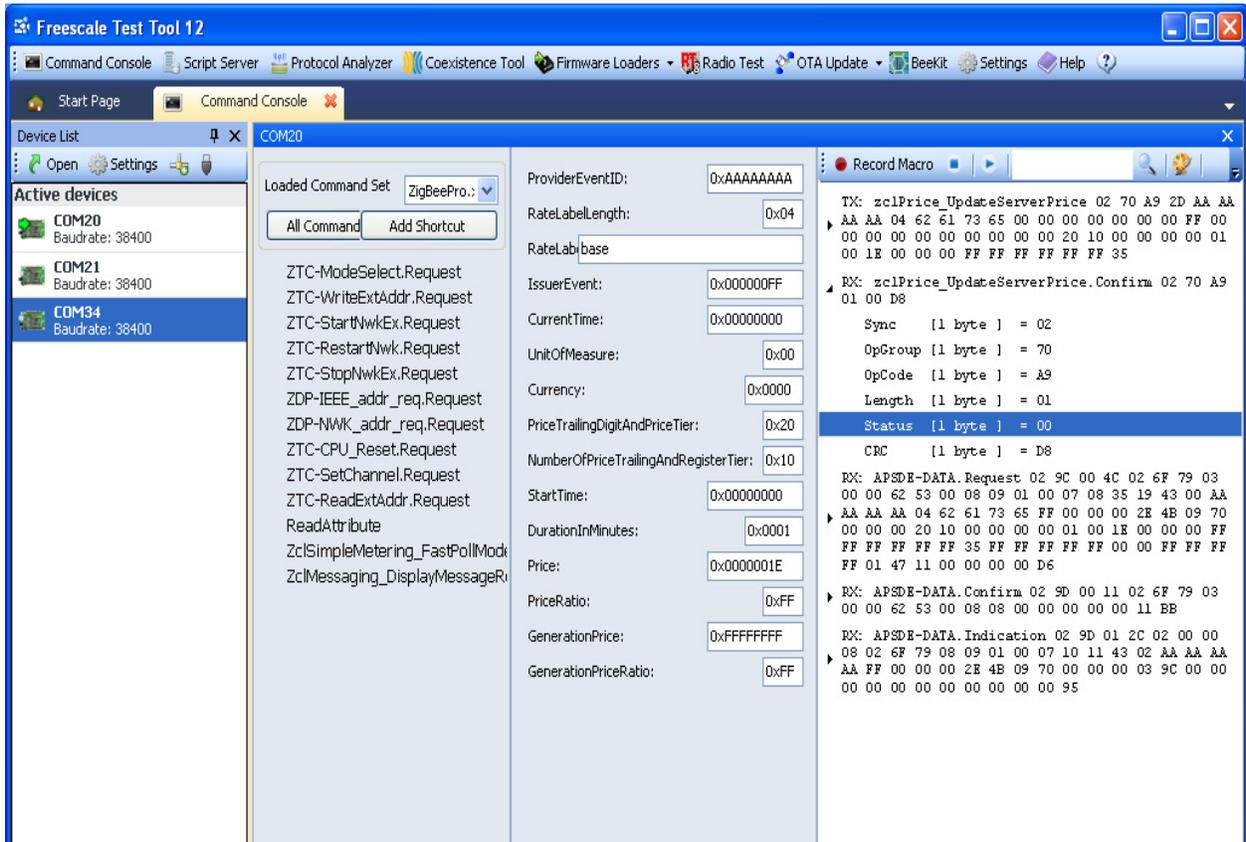

Figure 6-16. Update Server Price Command (Step 4)
- After the received event as described in Step 3 completes, from Test Tool, select the “Update Server Price command” and enter the field values as shown in Figure 6-16.